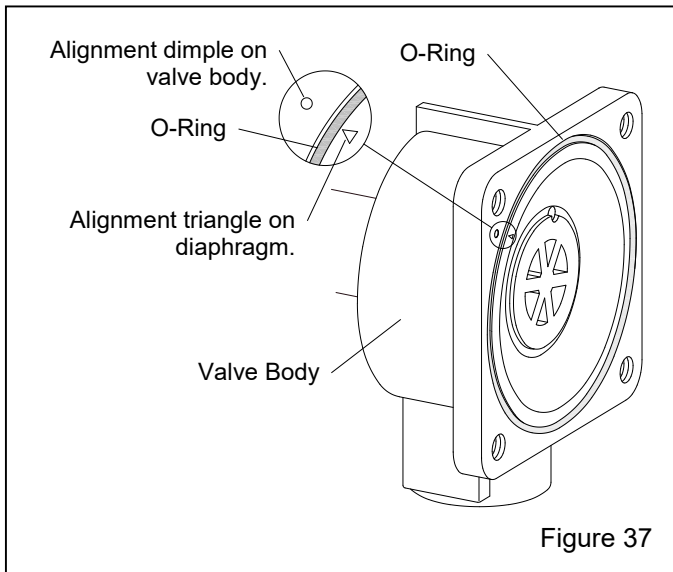

Figure 37
7.9.2 Remove the four cover screws and remove the cover, while keeping the diaphragm in place within the body. Note: Before removing the diaphragm and O-ring, note the round dimple on the upper left on the valve body and the position of the triangular shape on the upper left of the diaphragm, as shown in Figure 37. When reinstalling the diaphragm, the marks must be aligned as shown.
7.9.3 Reassemble using the new diaphragm and O-ring from the service kit, making sure the diaphragm is correctly aligned, as noted in Paragraph 7.9.2, Figures 37 and 38, and that the O-ring is seated into the groove.